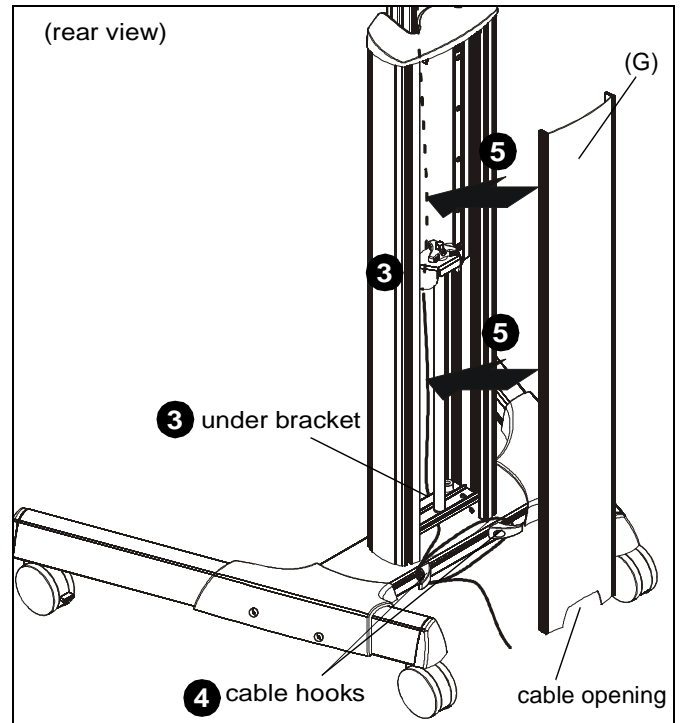

Figure 12
3. Route cables down column channel, tucking them behind height-adjustment carriage and underneath bracket holding height-adjustment shaft. (See Figure 12)
4. Wrap cables around cable hooks as desired. (See Figure 12)
5. Snap back cover (G) onto back of column assembly making sure cables fit through opening at bottom of cover. (See Figure 12)
WARNING: Do not attempt to raise or lower the adjustment carriage beyond its upper or lower limit. High and low points are shown in Figures 12 and 13.